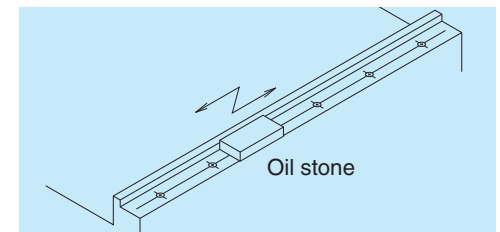

Fig. 10.12
- For both methods, wipe off the rust preventive oil applied to the linear guide. Remove burrs and small bumps on the machine base and table mounting surface with an oilstone (**Fig. 10.12**).